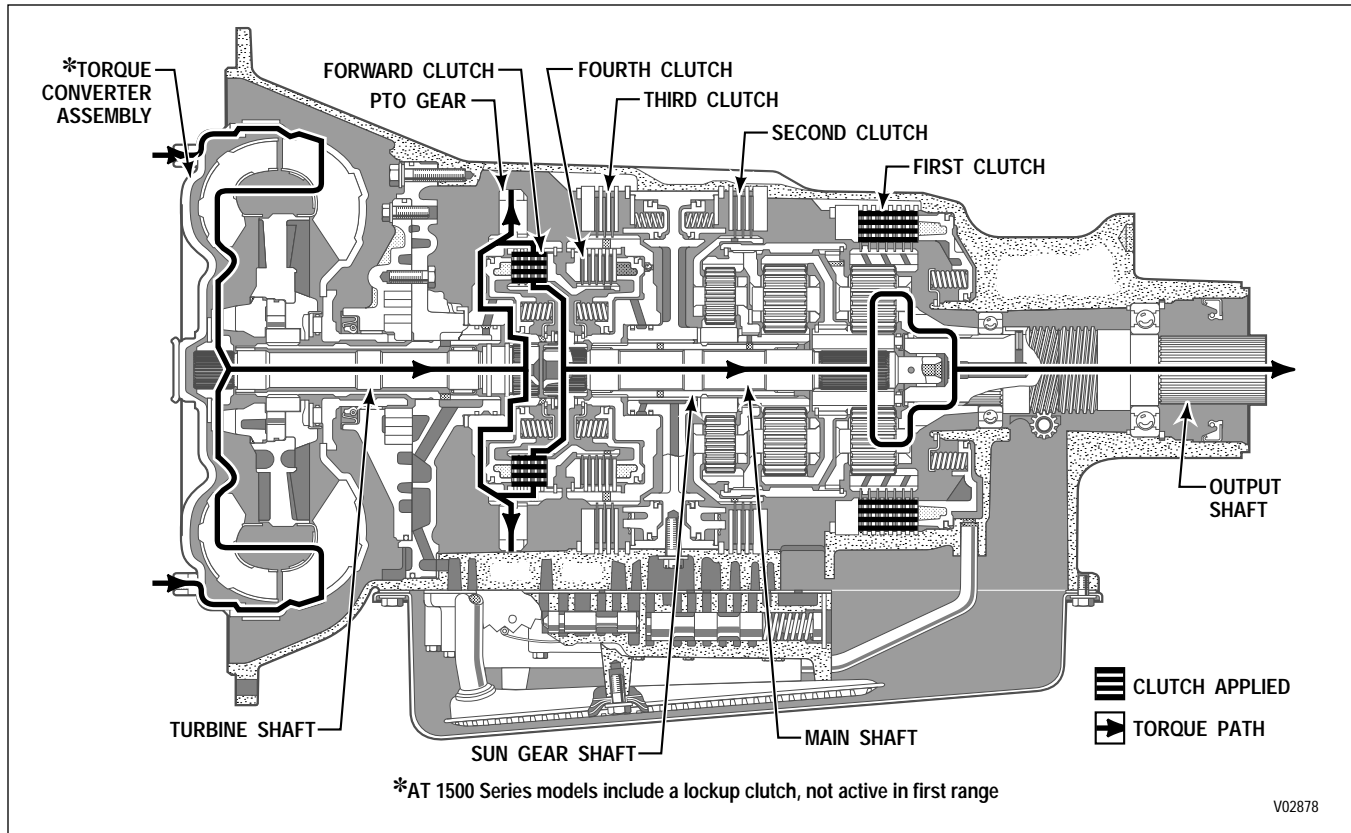

Figure 2-2. First Range Power Flow
c. First-Range Operation (Figure 2-2)
(1) The forward and first clutches are applied. The first clutch application anchors the rear planetary ring gear against rotation. The forward clutch application locks the turbine shaft and transmission main shaft together to rotate as a unit. The rear sun gear is splined to the main shaft and rotates with it and, in turn, rotates the rear planetary pinions. The